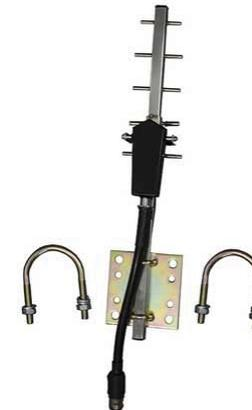

Figure 10
- 8) In applications where extreme range is required , high gain antenna may be utilized (see Figure 10).